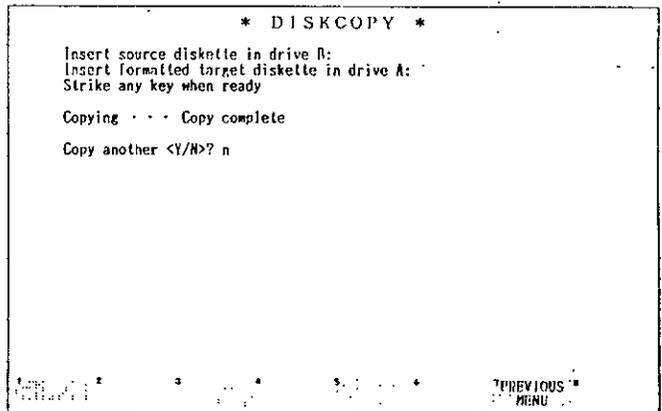

Fig. 5.29
3. To copy other disks in Fig. 5.29, first depress Y key, and then make the same operations as shown above.
(4) FILE DELETING